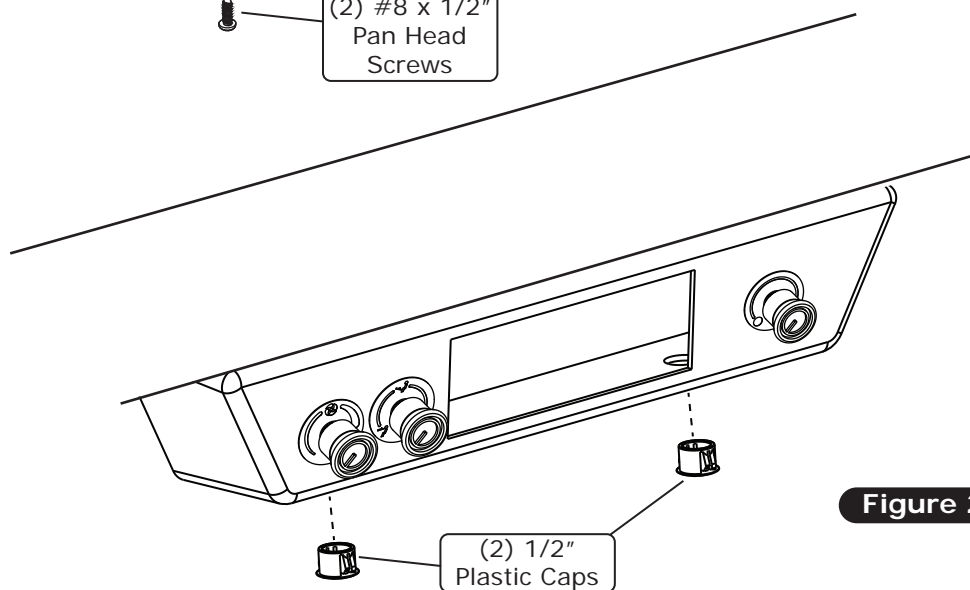

Figure 2
2. Install (2) 1/2" plastic caps underneath the control panel pod to cover the holes (See Figure 2, below).